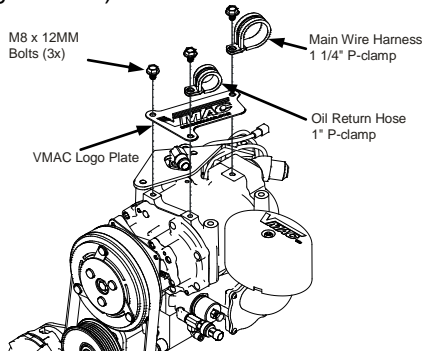

Figure 5.16
- ☐ Install VMAC logo plate onto the top of the compressor. Secure oil return hose and main wire harness with supplied P-clamps. (Figure 5.16)